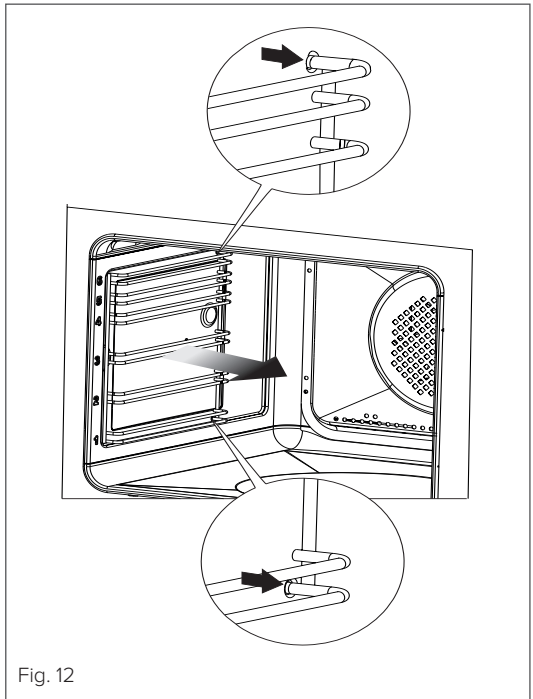

Fig. 12
- Tilt the shelf support outwards and you should then be able to remove the shelf support arms that secure it into the cavity walls at the back (Fig. 12)